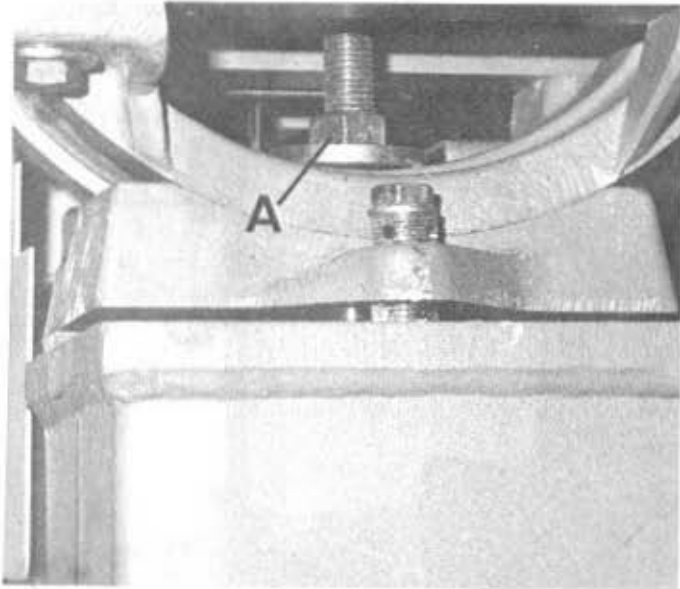
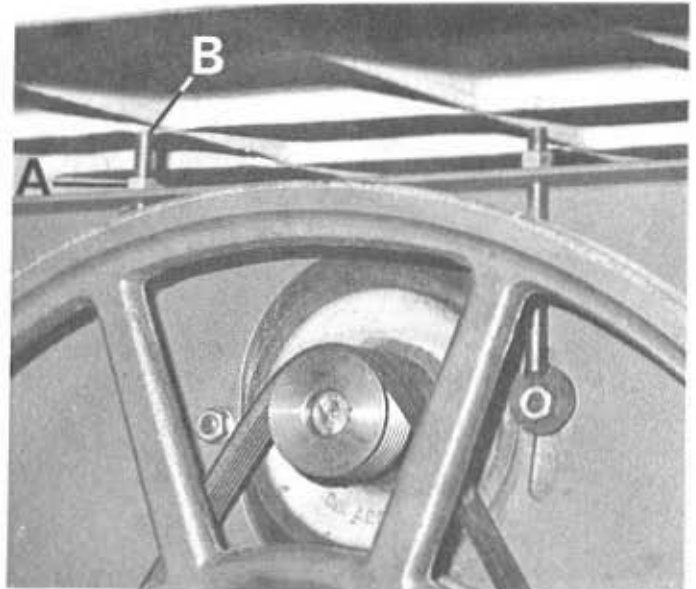

FIG 17
FIG 18
2. Loosen locknut "A", Fig.17.
4. If adjustment is necessary, loosen M16 locknut "A", FIG.17, and M12 locknut "A", FIG.18.
5. Set table square to sawblade by the steel square then relock M16 nut "A", FIG.17.
6. Turn screw "B", FIG.18, until it locks against underside of table then relock M12 locknut "A".